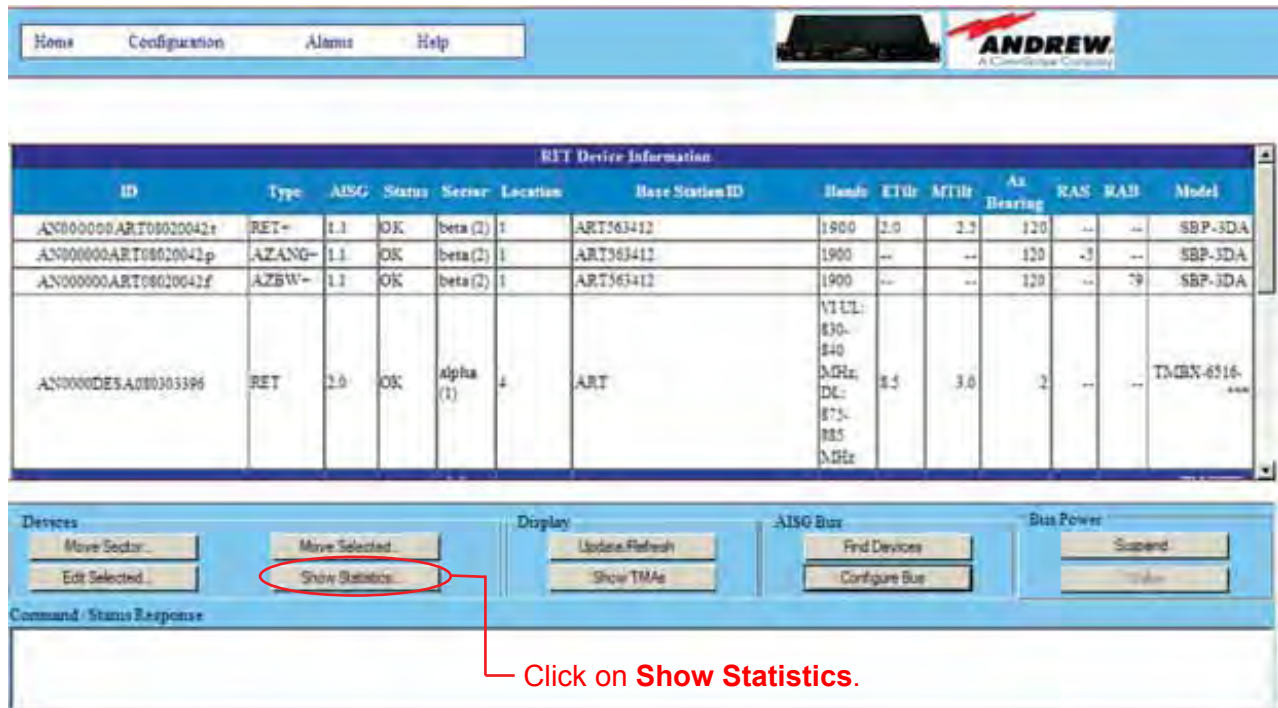

Figure C-6. Selecting Show Statistics.
Prior to uploading the firmware to an AISG device, the controller must be connected to the RET cable running to the device on the tower and recognize the RET device through an earlier device scan. RET devices recognized by the controller will show in the **Device Information** window of the controller's main interface screen (Figure C-6). If a device search has not yet been performed, see Section 10 to do so before proceeding.
2. From the controller's main interface screen, click on **Show Statistics** (Figure C-6).